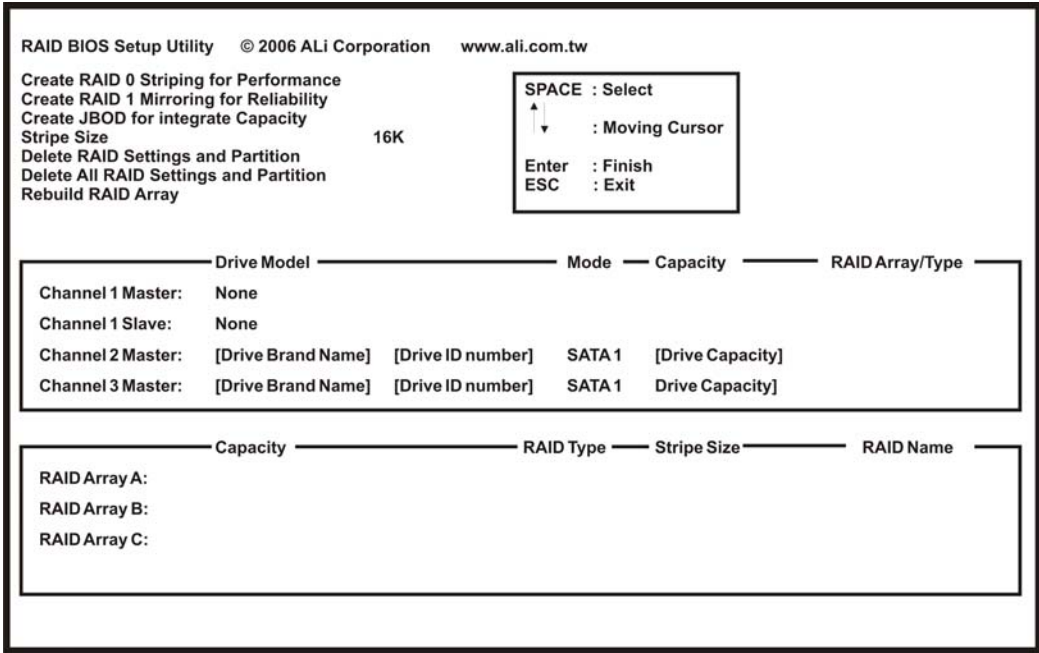

Figure E-2: RAID BIOS Setup Utility
**Step 6:** Delete RAID settings and partitions. The RAID BIOS Setup Utility in **Figure E-2** appears. Before configuring the array select the “Delete All RAID Setting & Partition”.
**Step 7:** Configure the RAID settings. Use the RAID BIOS Setup Utility in **Figure E-2** to configure the RAID array. Brief descriptions are given below.